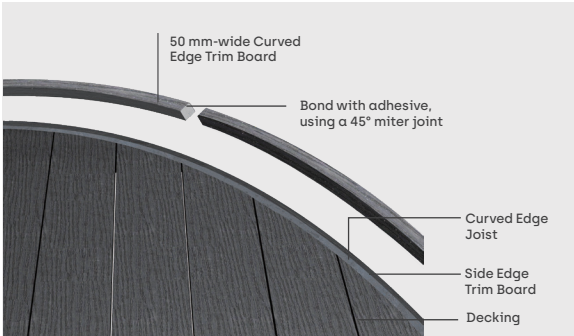

Figure 6-6
6. When jointing SKINGRAIN curved edge trim boards (preferably on straight sections whenever possible), a 45° miter joint may be used. Apply Yardcom-specified adhesive to the upward-facing joint surface for bonding, as shown in Figure 6-6.